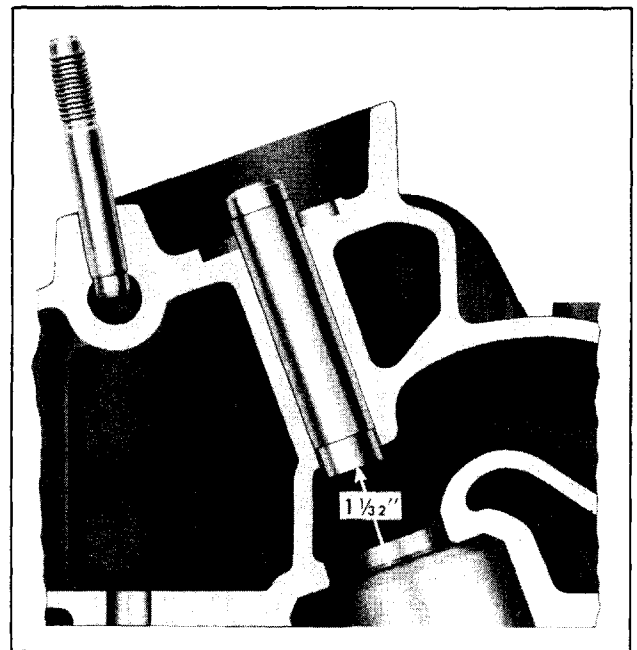
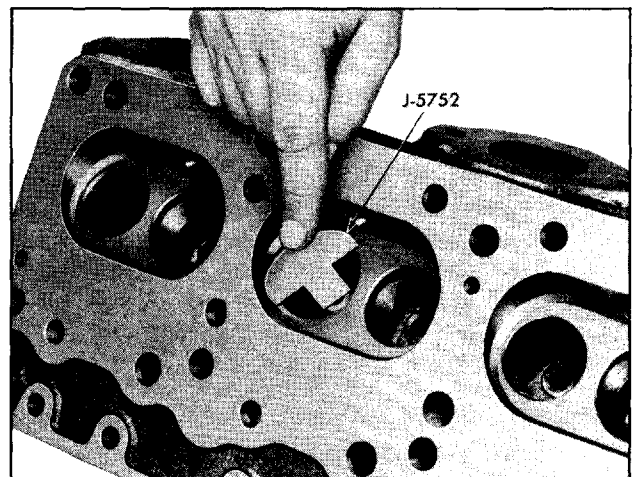

Fig. 6-42 Cross Section of Valve Guide Installed in Cylinder Head
Fig. 6-43 Checking Position of Valve Guide
b. Start chamfered end of valve guide into valve guide hole and drive into cylinder head with tool J-2542 until end of guide is  $1\frac{1}{32}$ " below roof of combustion chamber (Fig. 6-42). Use Valve Guide Depth Gauge J-5752 to measure this distance (Fig. 6-43).